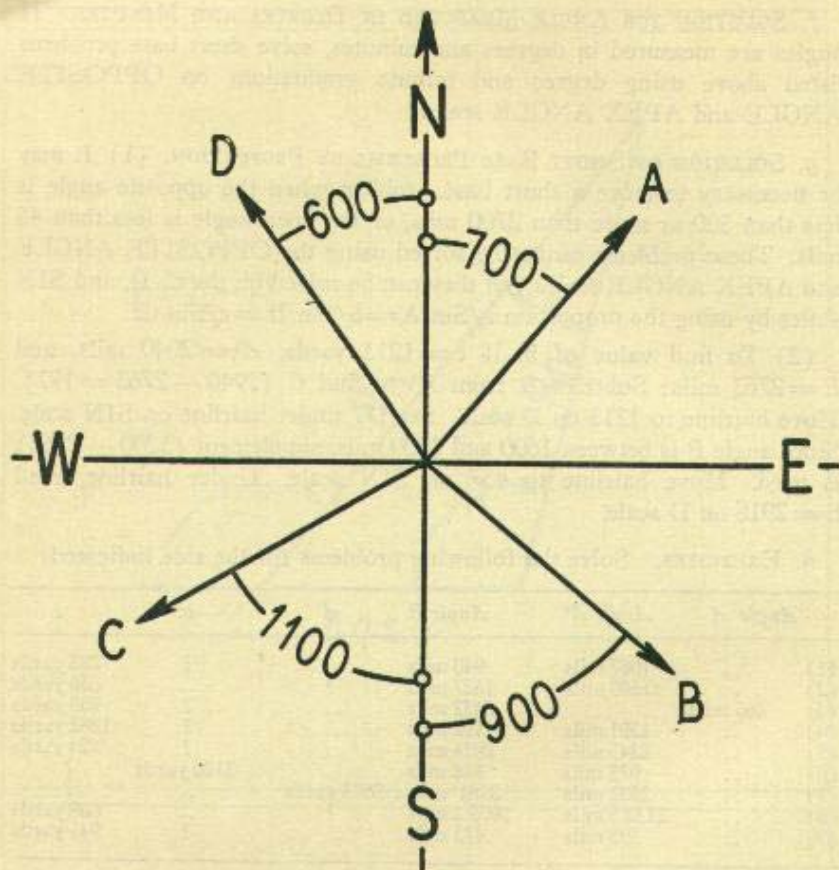

Figure 10. Method of designating bearings.
*a.* BEARINGS. The bearing of a line is the acute angle between the line and the  $Y$ -axis (north-south line). In figure 10, line A in the first quadrant has a bearing of N700E (read north 700 east), line B in the second quadrant has a bearing of S900E, line C in the third quadrant has a bearing of S1100W, and line D in the fourth quadrant has a bearing of N600W. Bearings in mils are always expressed as indicated above, giving first the letter N or S indicating from which end of the north-south axis the line deviates, then the angular deflection in mils, and finally the letter E or W indicating the direction of deviation. Bearings of lines having azimuths of 0, 1600, 3200, and 4800 mils are expressed as north, east, south, and west.